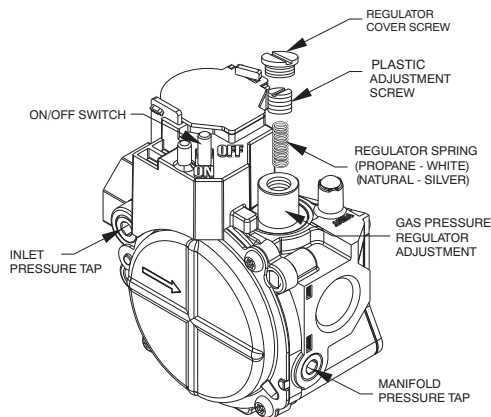

Fig. 12 - Single-Stage Gas Valve
1. Remove regulator cover screw over plastic adjustment screw on gas valve (See Fig. 12).
2. Turn plastic adjustment screw clockwise to increase gas input, or turn plastic adjustment screw counterclockwise to decrease input (See Fig. 12). Manifold pressure must be between 3.2 and 3.8 IN. W.C.
3. Replace regulator cover screw on gas valve (See Fig. 12).